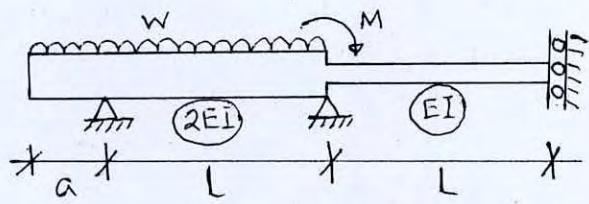

Fig. 8 (for Q.no.8)
8. Determine the stiffness equation in matrix form for the beam shown in Fig. 8. (21)